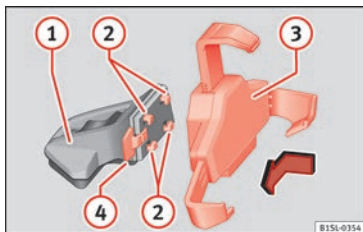
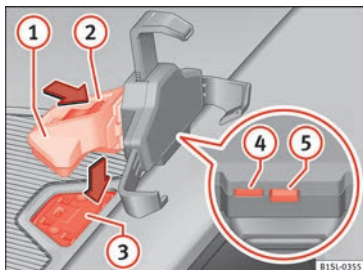

Fig. 134 Assembling the universal support and the holding arm.
Fig. 135 In the centre console: close the compartment where the infotainment system is housed.
- Press the release button **»» Fig. 135 ⑤** until the top arm of the universal holder disengages.
- If necessary, install the smartphone housing **»» ①**.
- Place the smartphone on the bottom mountings. To adjust the bottom mountings, press button **»» Fig. 135 ④**.
- Grip the universal holder **»» Fig. 134 ③** and press the release button **»» Fig. 134 ④**.
- Grip the holder arm and **»» Fig. 135 ①** and press the release button **»» Fig. 135 ④** in the direction of the arrow.
- Insert the universal holder **»» Fig. 134 ③** into the slots **②** on the holder **①**.
- Move the universal holder to the side in the locking direction **④** until it engages audibly **»» ①**.
- Place the holder arm **»» Fig. 135 ①** in the anchoring plate **»» Fig. 135 ③** from above and press down on it until you hear it engage **»» ①**.